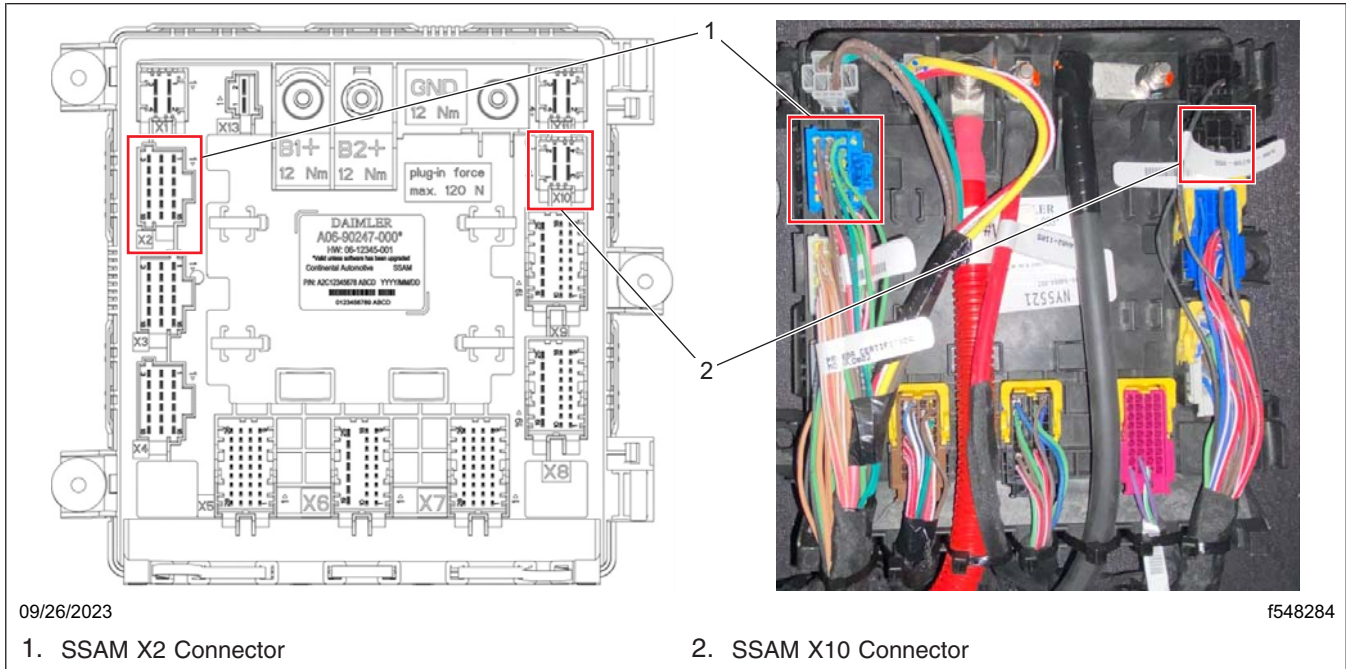

Fig. 16, Location of the SSAM X10 and X2 Connectors
8.1 Remove the X10 connector from the SSAM. See Fig. 16.
- 9.1 Remove the X2 connector from the SSAM. See Fig. 16, page 15.